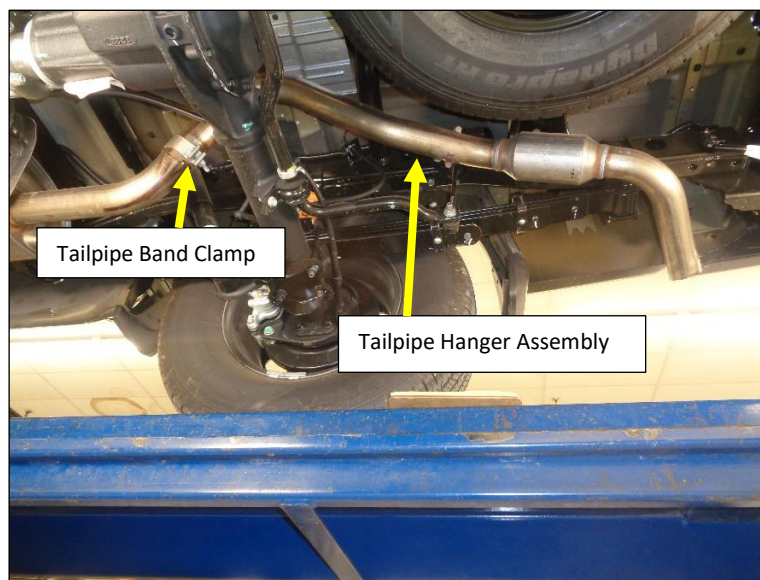

Figure 1
3. Remove the (x3) M8 bolts from the tailpipe hanger assembly bolted to the frame just over the axle. **Fig.1**
4. Remove the rubber tailpipe hanger and remove the tailpipe. **Fig. 1**
6. Remove the (x2 each) 14mm nuts at the flanges connecting the muffler inlet pipes to the catalytic converter. **Fig.1**